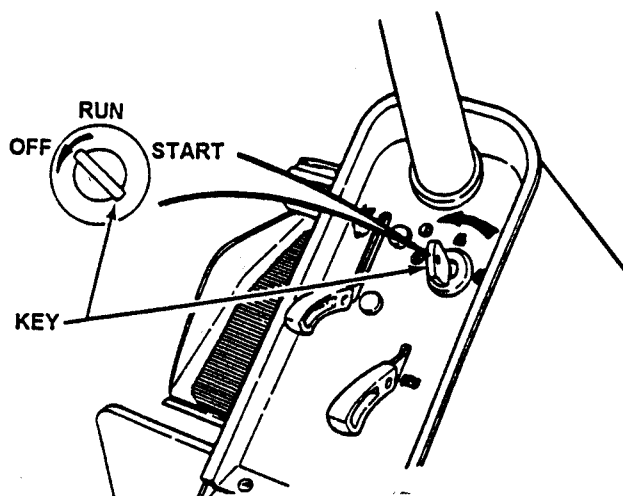

FIGURE 2.10
1. Stop engine by turning key to the "OFF" position. See Figure 2.10.